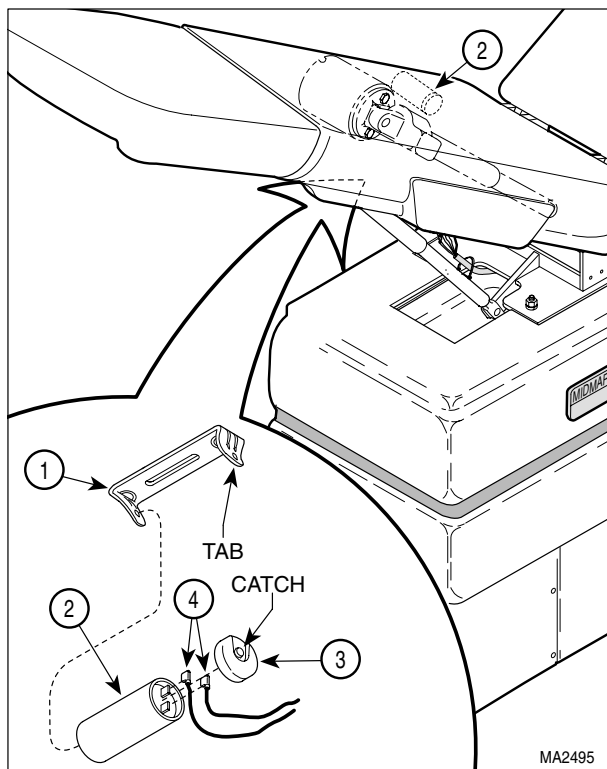

Figure 4-23. Back Capacitor
- (2) Unplug power cord from wall outlet.
- (3) Using a screwdriver, pry tab of mounting bracket (1, Figure 4-23) outward and separate back capacitor (2) from mounting bracket.
- (4) Remove capacitor cap (3) from back capacitor (2).